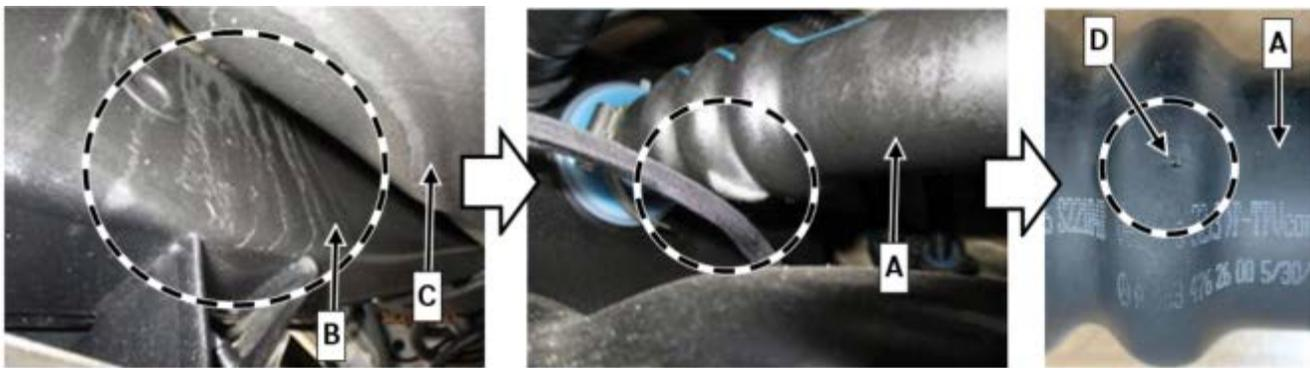

Figure 2
4. Check vehicle frame (**B, Figure 2**) next to fuel tank (**C, Figure 2**) for discolorations caused by fuel.
5. Use a telescopic mirror to check the tank filler hose (**A, Figure 2**) all around for damp areas and discolorations caused by fuel.
- i** The discolorations caused by fuel are the result of a material fault (**D, Figure 2**) in the tank filler hose (**A, Figure 2**).
- a. Tank filler hose (**A, Figure 2**) **not** leaktight: Carry out **work procedure**.
- b. Tank filler hose (**A, Figure 2**) leaktight: **End measure**.